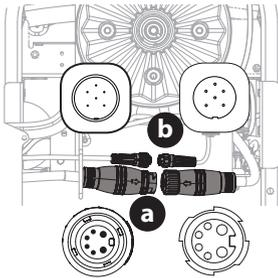

Figure 18
4. Disconnect the deck motor(s) from the adapters on the underside of the riding mower. Rotate the collar on the larger connector (a) counter-clockwise and carefully pull apart. Repeat the procedure with the smaller connector (b) (Figure 18).
6. Reconnect the deck motors on the underside of the riding mower. Always connect the larger connector (a) first and then the smaller connector (b) (Figure 18).